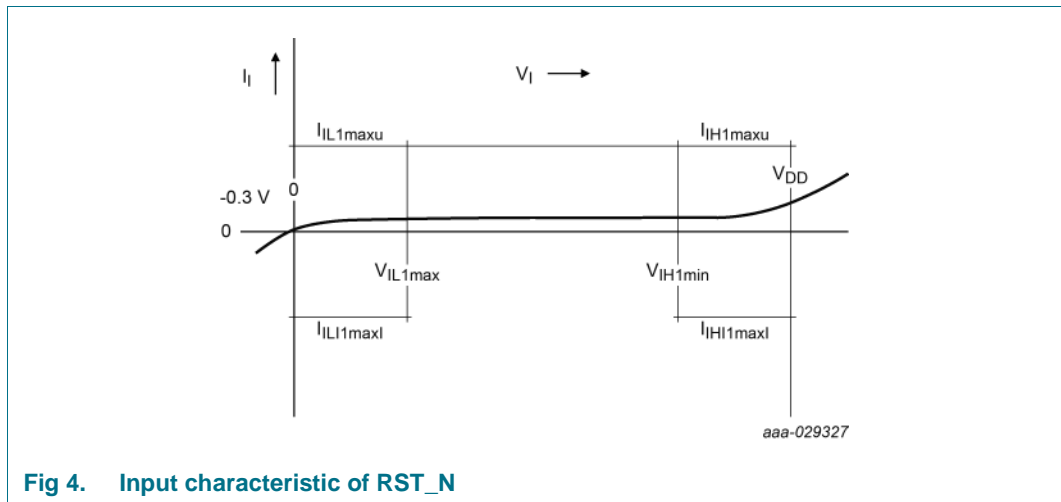

Fig 4. Input characteristic of RST\_N
- [3] The active low RST\_N input internally has a resistive pull-down device to VSS. Accordingly a current is flowing into the pad voltages above 0 V. Figure 4 shows the RST\_N input characteristic.